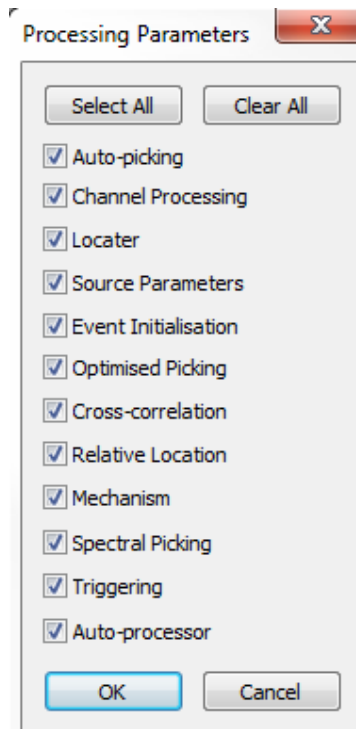

Figure 5-8: Import Processing Parameters Menu
- Import Processing Parameters Files - opens a Dialog to allow the user to select which parameter to import to update current processing parameters (Figure 5-8).